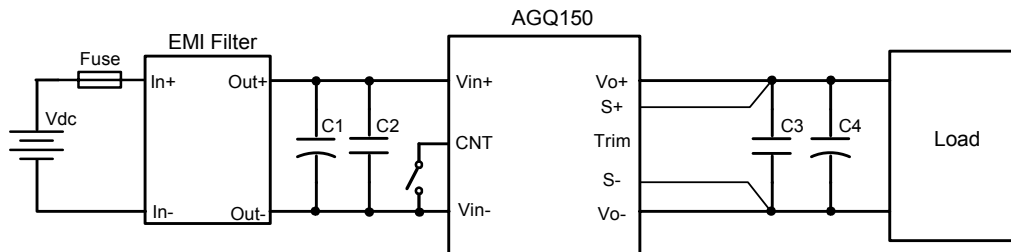

Figure 11 Typical application
| Recommended input fuse | | | | 15 | A | Fast blow external fuse recommended; Figure 11 |
| Recommended external input capacitance | | | 100 | | μF | Low ESR capacitor recommended; Figure 11 |
Figure 5 Dynamic response for 25% load step (25% ~ 50% ~ 25%) and 0.1A/µs slew rate, (2ms/div), see Figure 11 for test configuration; CH1-output voltage (100mV/div); CH2-output current (10A/div)
Figure 6 Dynamic response for 25% load step (50% ~ 75% ~ 50%) and 1A/µs slew rate, (2ms/div), see Figure 11 for test configuration; CH1-output voltage 50mV/div; CH2-output current (10A/div)
- C1 ~ C4: See Figure 11